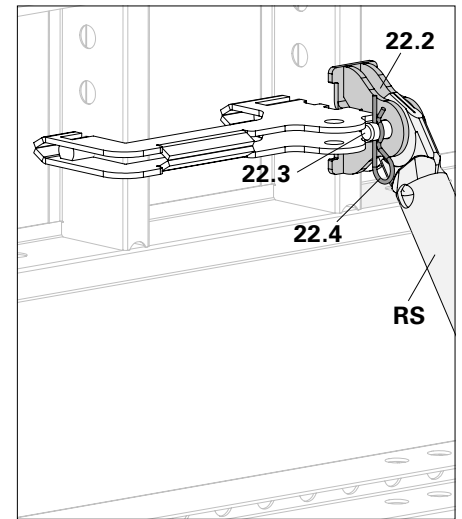
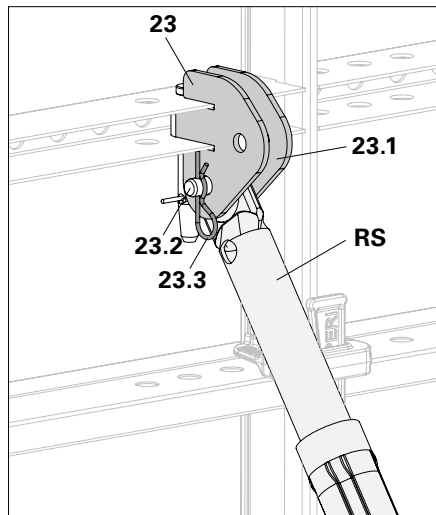

Fig. A6.03b
Fig. A6.04
- Connect Push-Pull Prop (RS) and connection lugs (23.1) with bolts (23.2) and cotter pins (23.3). (Fig. A6.04)
- Vertical assembly of the Brace Connector LIWA-2 (22):
- Connect Push-Pull Prop (RS) and connection lugs (22.2) with bolts (22.3) and cotter pins (22.4). (Fig. A6.03b)